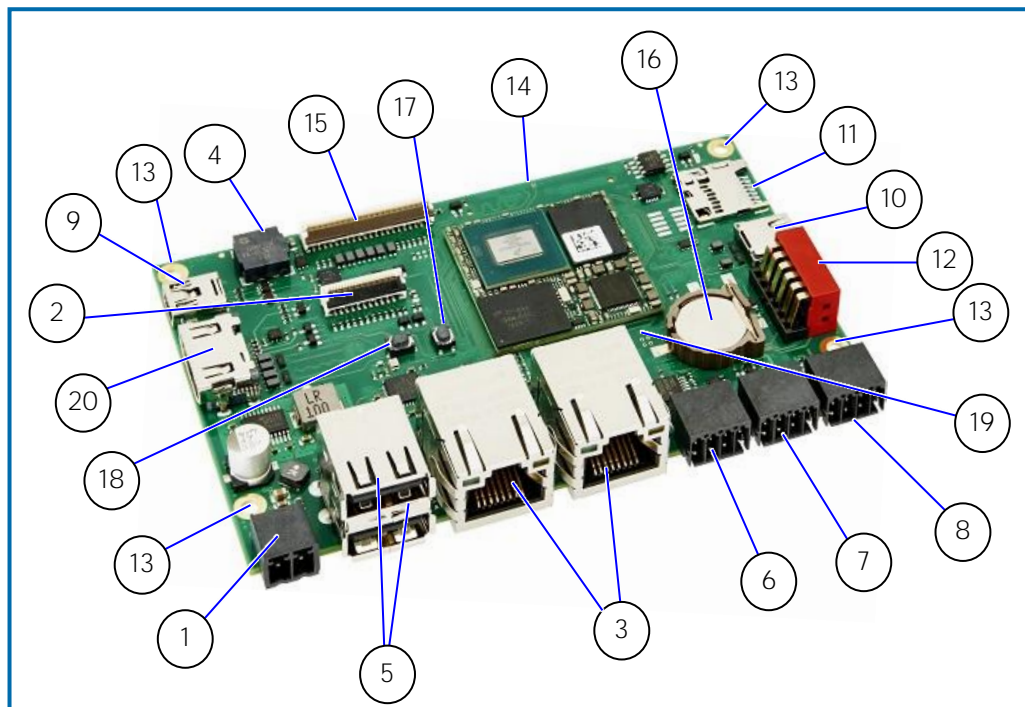

Figure 7: Top Side View
There is one 2-pin power connector on the top side of the board supporting an input DC voltage range of 24 V DC $\pm 20\%$, see Figure 7 (pos. 1). The mating connector required to connect the power connector to a DC main power source is supplied with the BL i.MX8M Plus QC. For information on how to connect the supplied mating connector to the input power source, refer to Chapter 7.2: Wiring the DC Mating Power Connector.
There is a 4-lane MIPI CSI interface (1080p @30 fps) for camera solutions, see Figure 7 (pos. 2).
There are two LAN ports, see Figure 7 (pos. 3). In the software these are referred to as ETH0 and ETH1. The assignment between LAN2/LAN1 and ETH0/ETH1 depends on the software. In order to achieve the specified performance of the Ethernet ports (1 Gbit/s), shielded category 5E, 6 or 6E twisted pair cables must be used. For the pin assignment of the RJ45 Ethernet connectors, refer to Chapter 10.2.3: Ethernet RJ45 Connector (X1001 + X1101)
There is a buzzer connected to PWM_1 (F18) via a N-channel MOSFET, see Figure 7 (pos. 4).
There are two USB 2.0 ports allowing for the connection of USB 2.0 compatible devices, see Figure 7 (pos. 5). The USB ports are designed for connecting short cables only.
There is a RS232 interface (RX/TX) supporting RTS/CTS, see Figure 7 (pos. 6). The RS232 interface is not designed for connecting cables longer than 3 m.
The RS485 interface in Figure 7 (pos. 7) contains also the wiring for CAN. The RS485 interface is not designed for connecting cables longer than 30 m.
The CAN interface in Figure 7 (pos. 7) also contains the wiring for RS485. The CAN address switches 1..4 are connected directly to GPIO pins and can therefore also be used for other purposes. The CAN interface is not designed for connecting cables longer than 30 m.
There is a four port DIO interface available on the front of the BL i.MX8M Plus QC, see Figure 7 (pos. 8).
There is a debug interface using UART protocol with a Mini-B USB connector, see Figure 7 (pos. 9).
There is a USB 3.0 Type-C DRP interface that can act as USB device or host, see Figure 7 (pos. 10).
There is a card slot to connect a microSD card for extra memory, see Figure 7 (pos. 11).
The GND pin of the power connector is connected to functional earth of the electronics and to the four mounting holes on the edges of the circuit board, see Figure 7 (pos. 13).
There is an extension connector for connecting customized add-on boards, see Figure 7 (pos. 14).
There is a LVDS interface to connect a LVDS display, see Figure 7 (pos. 15).
There is a Power Button to shut down the device, see Figure 7 (pos. 17).
There is a Reset Button to restart the device, see Figure 7 (pos. 18).
There is a switch to activate or deactivate the recovery mode, see Figure 7 (pos. 19).
There is one HDMI interface (up to 4k resolution) for video solutions, see Figure 7 (pos. 20). The HDMI interface is not designed for connecting cables longer than 3 m. Depending on the monitor and the installation situation, a suitable HDMI cable with folding ferrite must be selected.